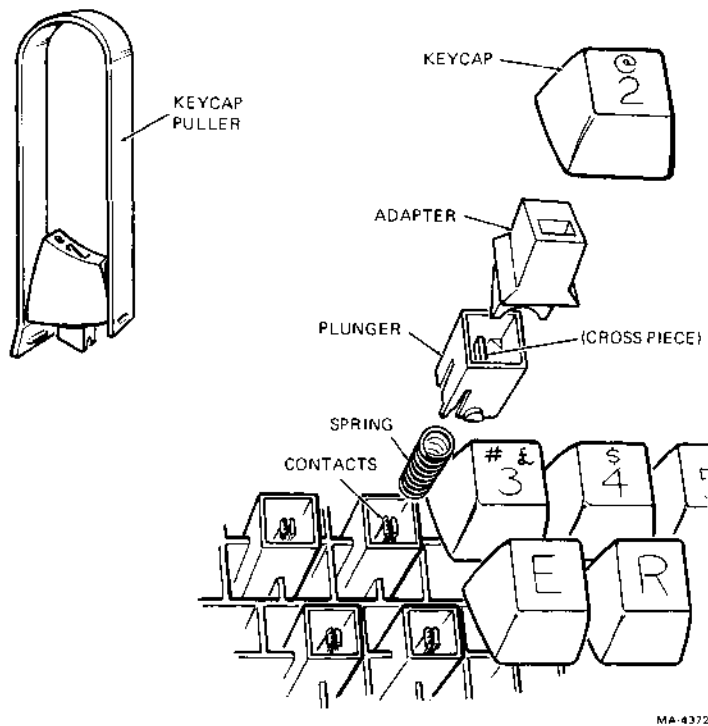

Figure 3-23 Keycap Removal
2. Start at upper-left corner of keyboard. Insert keycap puller (Figure 3-23) between first cap to be replaced and adjacent keycap. Be sure that long puller leg is away from you.
4. If the adapter does not come off with the cap (Figure 3-23), carefully remove adapter with long nose pliers. Reinstall adapter in the keycap, making sure that the pointed adapter ends face front of cap.
5. In a very few cases, the plunger might also come off. If so, take care to prevent the spring from flying out (Figure 3-23). Replace plunger and spring as follows.